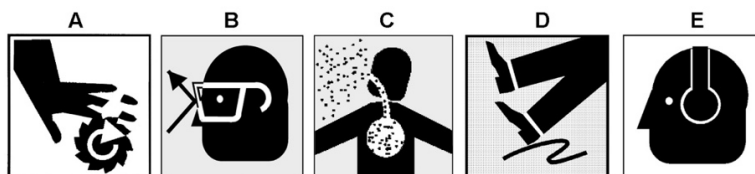

Figure 1-1
Leather safety gloves should be used when handling any sharp objects or cutting tools. See A, Figure 1-1.
6. Always wear protective eye wear when operating, servicing or adjusting machinery. Eyewear shall be impact resistant, protective safety glasses with side shields complying with ANSI Z87.1 specifications. Use of eye wear which does not comply with ANSI Z87.1 specifications could result in severe injury from breakage of eye protection. B, Figure 1-1.
7. When drilling in material which causes dust, a dust mask shall be worn. See C, Figure 1-1.
9. Non-slip footwear and safety shoes are recommended. See D, Figure 1-1.
10. Wear ear protectors (plugs or muffs) during extended periods of operation. See E, Figure 1-1.